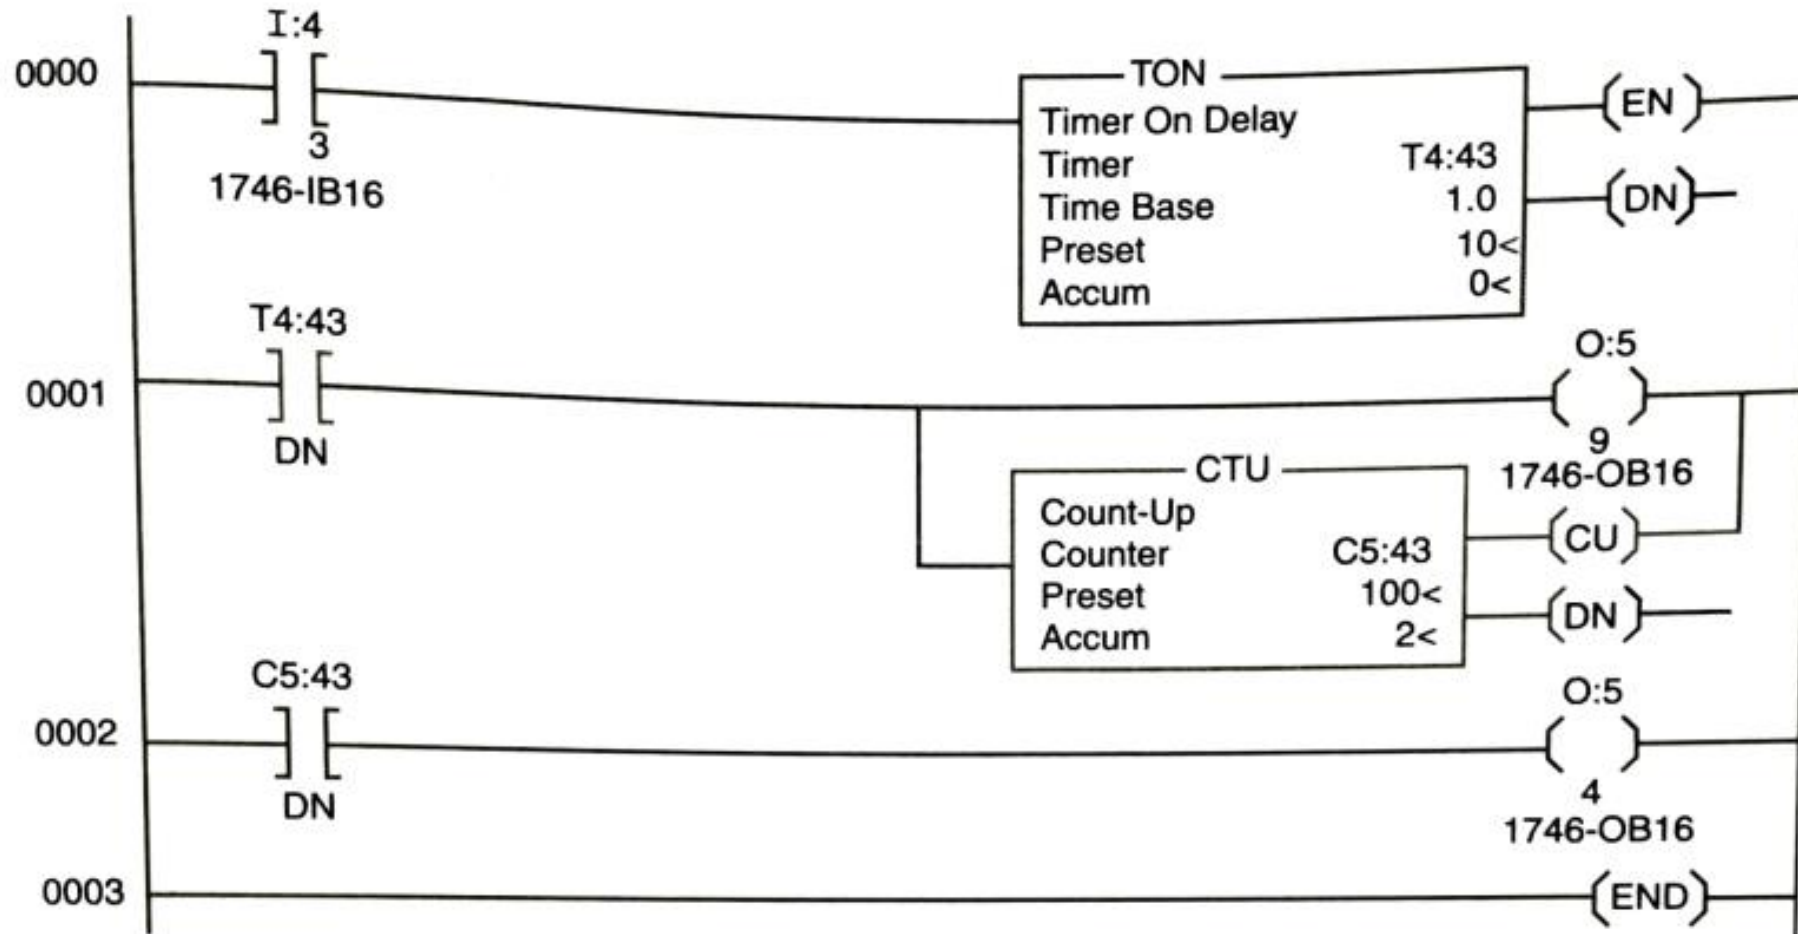

Figure 16-21 Counter C5:0 tracking the number of timing cycles.
- Figure 16-21 illustrates a counter working in conjunction with a timer.